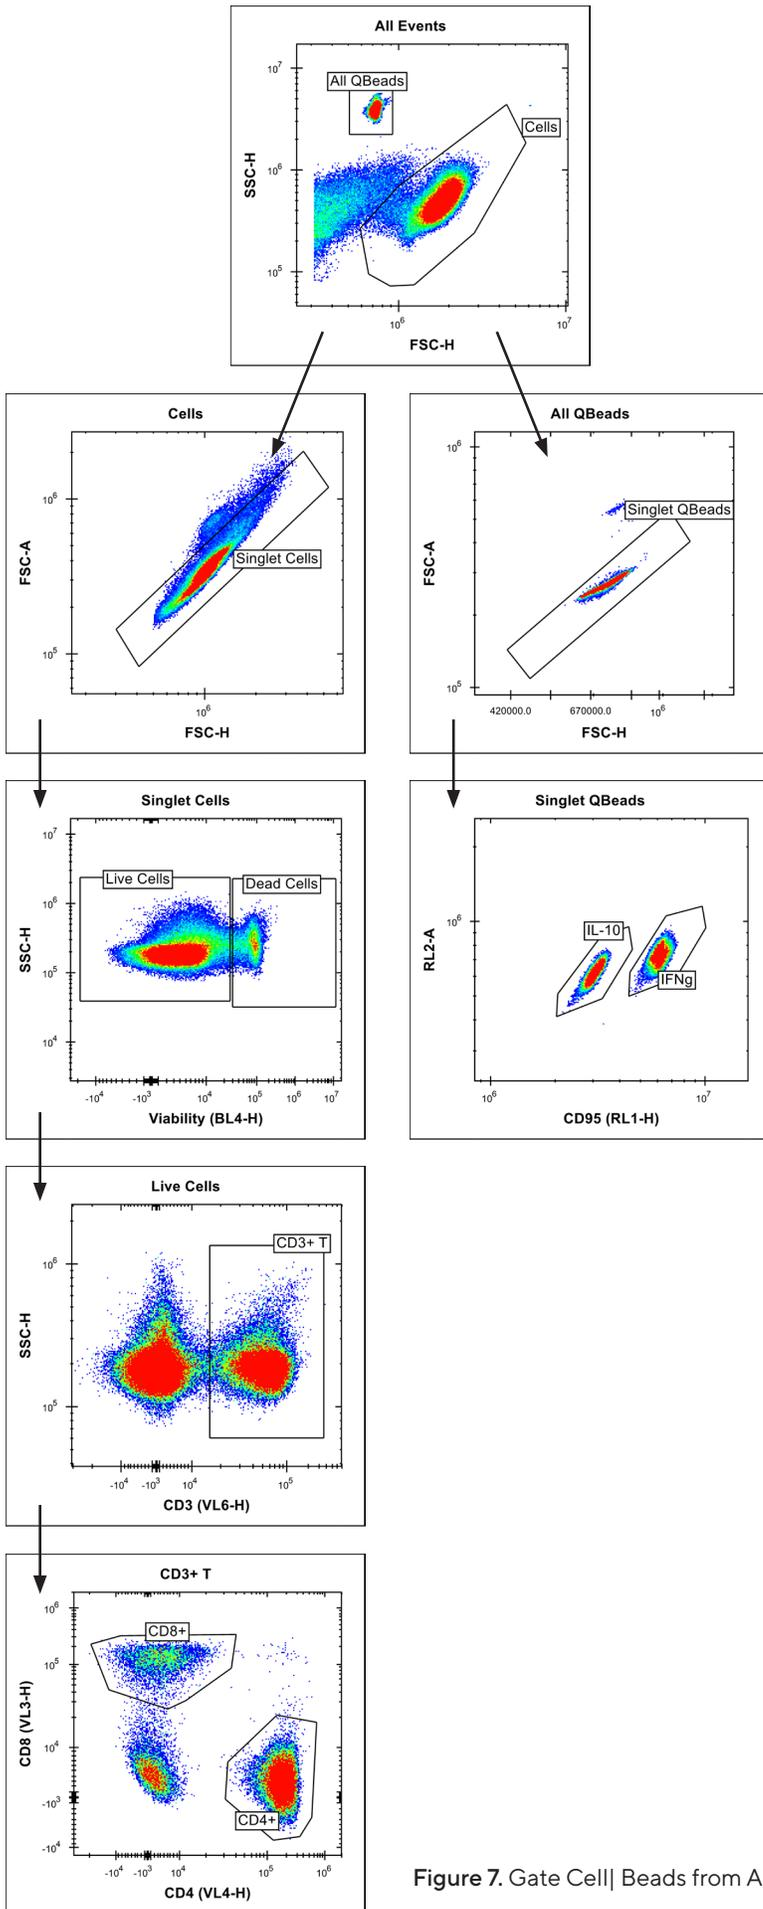

Figure 7. Gate Cell| Beads from All Events
- 13.2.1 All Events → Singlet Beads → 2 iQue Qbeads® | Human IFN γ and IL-10 Capture Beads (See **Figure 7**).
- 13.2.2 All Events → Singlet Cells → Live and Dead Cells → CD3+ (See **Figure 7**).